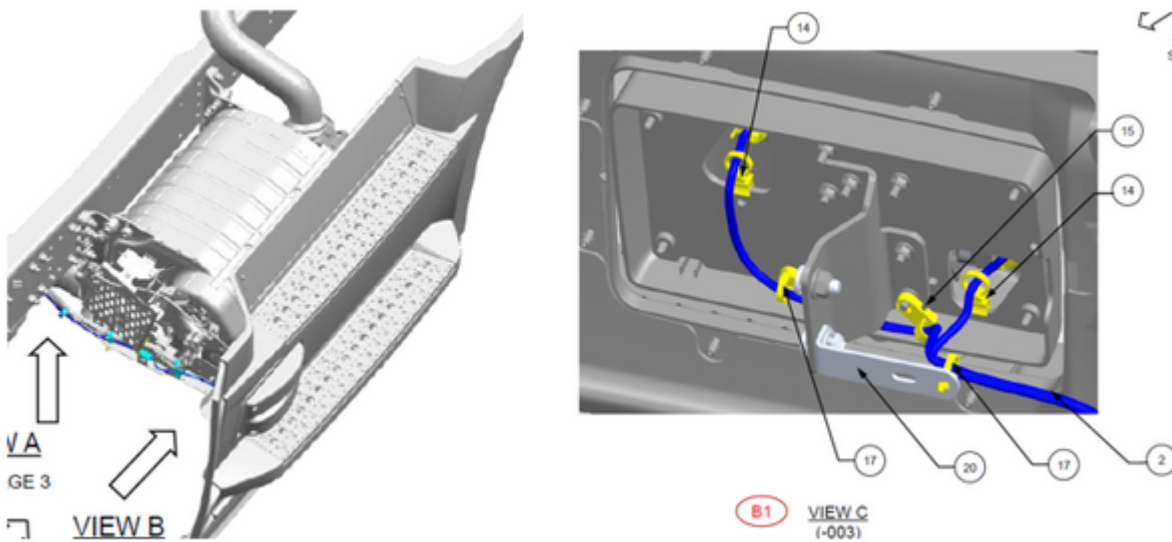

Figure 3: SOD Harness installation (-003) with additional clipping points (CAS 116 DC/SLP)
- Install and route Harness as per installation Diagram shown in Figure 3 for the specific models listed and refer to Table 2 for additional parts required: